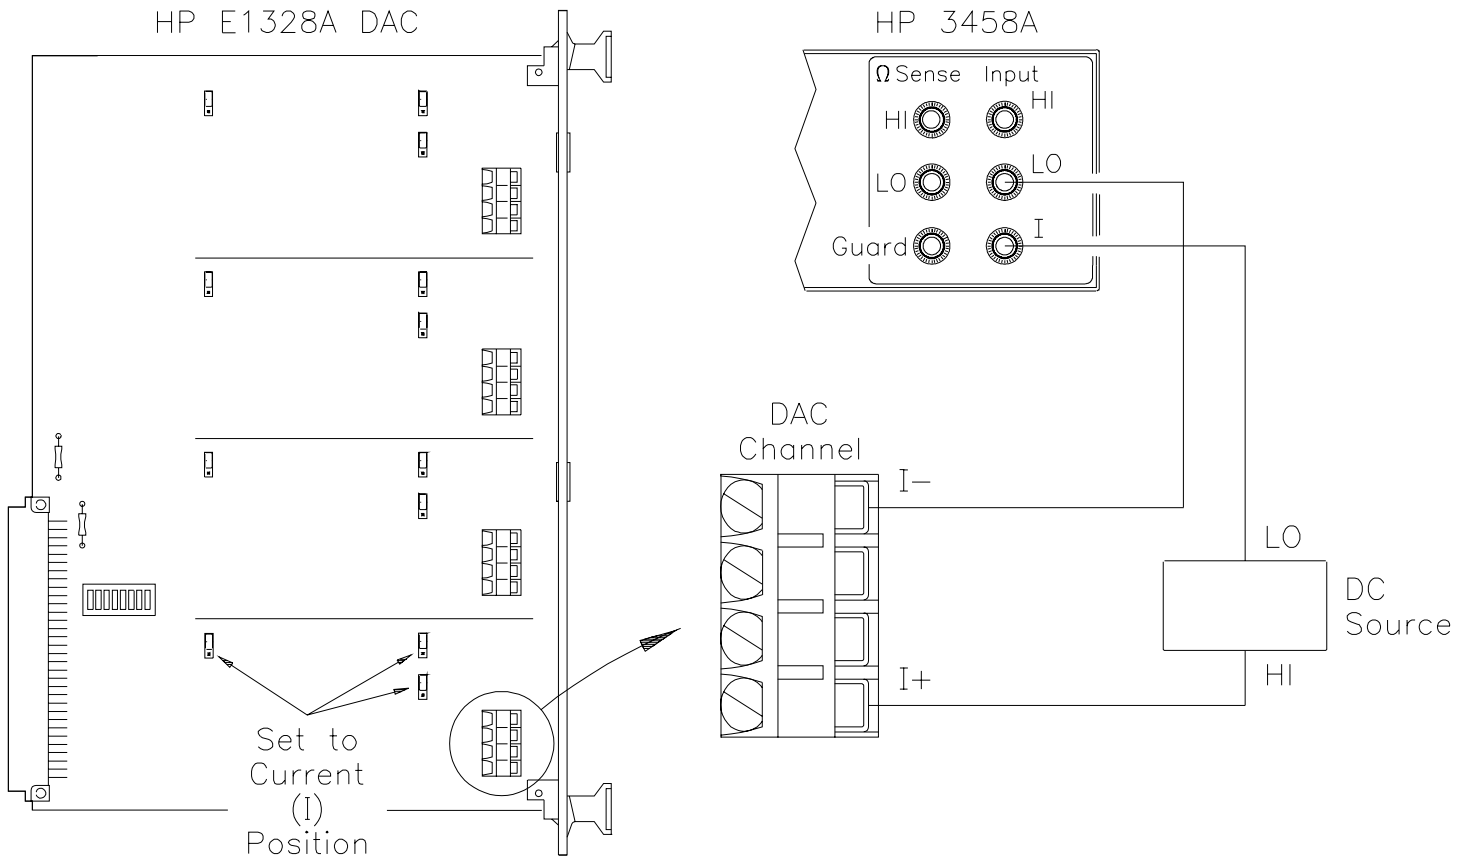

Figure 4-2. Current Compliance Test Connections
Connect the DC source (Datron 4708 with Option 10) and HP 3458A multimeter to Channel 1 as shown in Figure 4-2. (Be sure to set all three channel jumpers to the I position.) Then, set the DC source output to +12.0 Vdc. Set the HP 3458A to DCI function and set NPLC 100.
2. Connect source and HP 3458A to Channel 1 (see Figure 4-2)